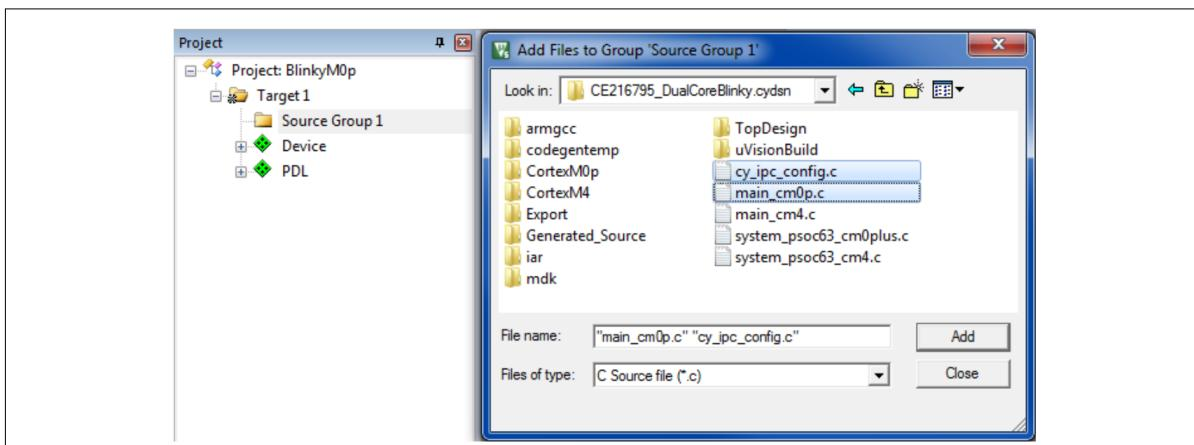

Figure 422 Add PSoC™ Creator project C source files to the source group
Right-click **Source Group 1**, and select **Add Existing Files to Group ‘Source Group 1’...**. Navigate to your PSoC™ Creator project folder and select `main_cm0p.c`, `cy_ipc_config.c`, and all other non-system .c and assembler files needed for your project, as Figure 422 shows. You do not have to add any .h files, startup, or system .c, or assembler files. Click **Add**; the files are added to the source group in the µVision project. Click **Close**.
- Navigate to your PSoC™ Creator project folder and select `main_cm4.c`, `cy_ipc_config.c`, and all other non-system .c and assembler files needed for your project, as Figure 422 shows. You do not have to add any .h files, startup, system .c, or assembler files